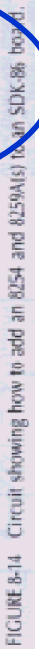

FIGURE 8-14 Circuit showing how to add an 8254 and 8259A(s) to an SDK-86 board.
- ⌘ Initialization steps: (D. Hall Fig 8-14, 8-15, 8-16)